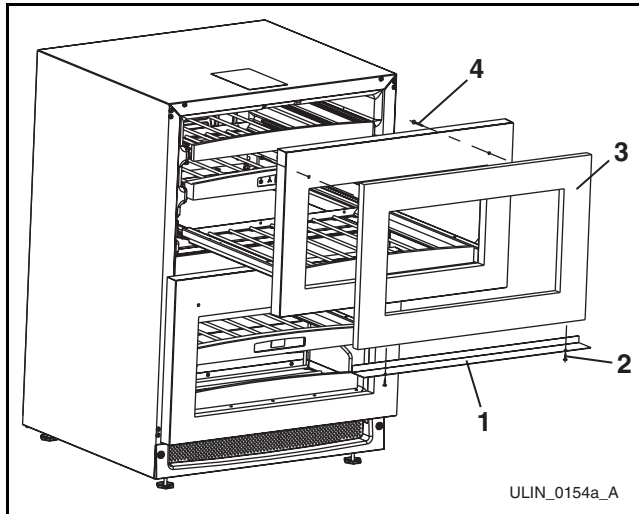

Figure 24
3. Place finished drawer overlay panel (**Figure 24, 3**) over front of drawer and using masking tape, tape to front of drawer, making sure to center overlay and making the top and bottom flush with drawer.
4. Place drawer overlay bracket (**Figure 24, 1**) on bottom of drawer making sure to catch the back of the drawer with the short lip on bracket.
9. Attach the bottom bracket to the wood using 2 of the 5/8" screws (**Figure 24, 2**) included with the unit.
11. Secure the top of the wood panel by placing 2 of the 1-1/2" wood screws (**Figure 24, 4**) through the top holes in the drawer, and tighten securely.